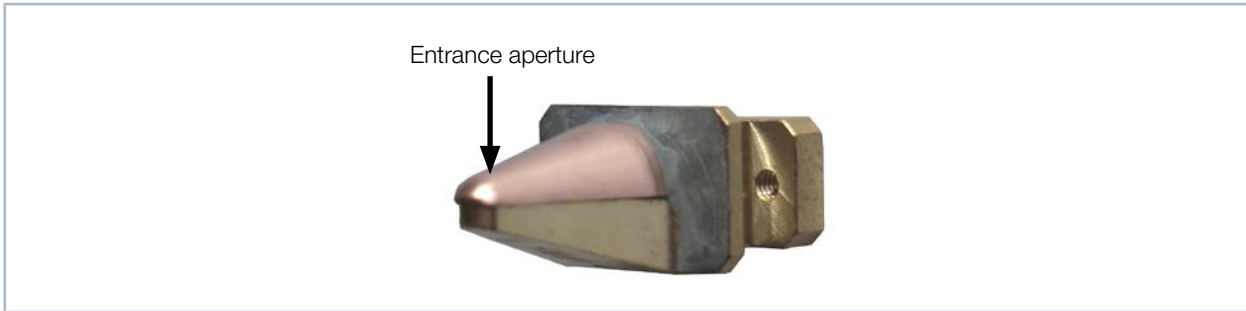

Fig. 13.2: Entrance aperture (pinhole) in the measuring tip.
5. Carefully insert the new measuring tip in the disc (caution, the entrance aperture is located on the arched side of the tip, see Fig. 13.2).